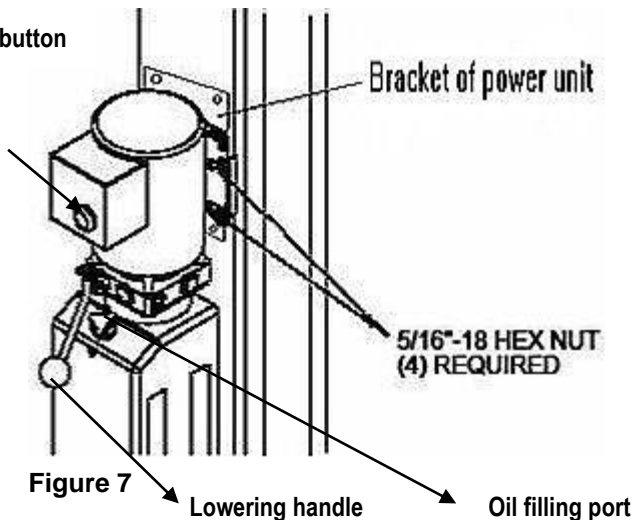

Figure 7
- Use 5/16x18 bolts and washers (see fig. 7) to secure the power unit. After the securing of the power unit. Fill the reservoir with hydraulic oil (oil capacity of 10L). Operate carefully to avoid dust and other pollutants mixing with the hydraulic oil.